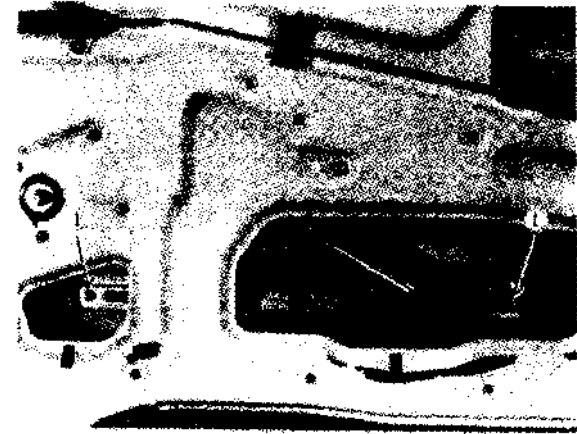

Fig. 4.1-4
- 7) Fixing screw for front door glass bearer, see Fig. 4.1-4.